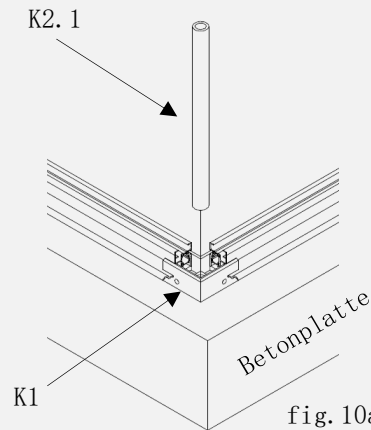

fig. 10a
- the drilling aid (PVC pipe) (item K2.1) is inserted into the hole in the corner connector (item K1). (fig. 10a)